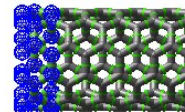

Figure 14
6. Select the Atoms button. In the construction window, click and drag to select the last two or three rings of carbon atoms on one end of the carbon nanotube. (Figure 14)